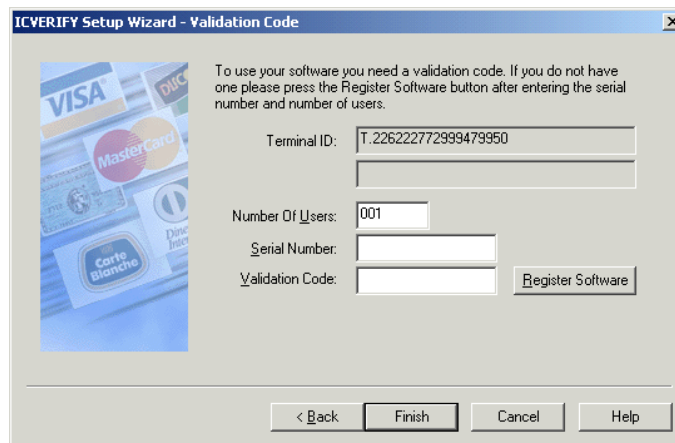

Figure 4.0.2-2: Serial Number & Validation Code
44. Left-click “Next” to proceed to the “Validation Code” window (see **Figure 4.0.2-2** below).